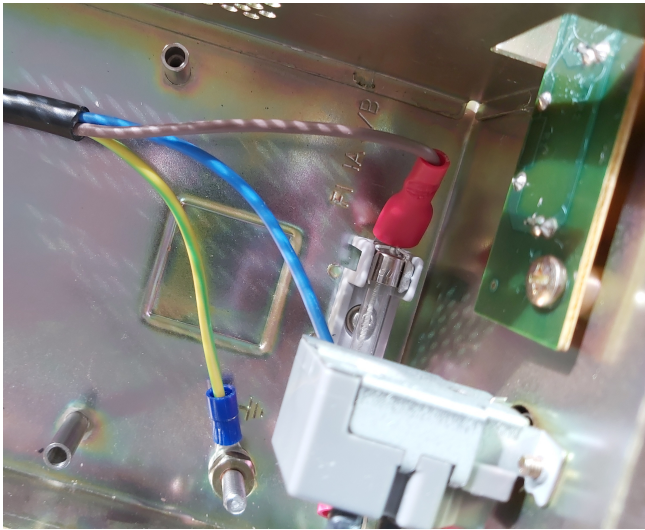

Figure 1.3: Connect the Ground (green) and Live (brown) wires.
4. Firmly push the spade connector onto the fuse holder terminal. Loop the ring connector over the vertical 'ground' post and secure it in place with a nut (as shown in Figure 1.3). Note that the fuse itself does *not* need to be replaced.